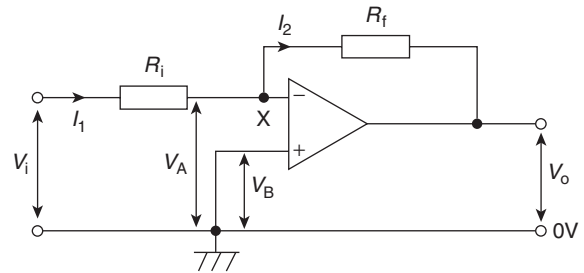
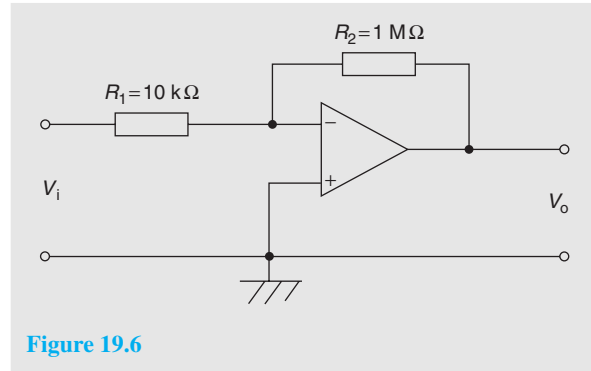

Figure 19.5
Figure 19.6
Operational amplifiers nearly always use **negative feedback**, obtained by feeding back some, or all, of the output to the inverting ($-$) input (as shown in Fig. 19.5 in the next section). The feedback produces an output voltage that opposes the one from which it is taken. This reduces the new output of the amplifier and the resulting closed-loop gain A is then less than the open-loop gain A_o . However, as a result, a wider range of voltages can be applied to the input for amplification. As long as $A_o \gg A$, negative feedback gives:
The basic circuit for an inverting amplifier is shown in Fig. 19.5 where the input voltage V_i (a.c. or d.c.) to be amplified is applied via resistor R_i to the inverting ($-$) terminal; the output voltage V_o is therefore in anti-phase with the input. The non-inverting ($+$) terminal is held at 0V. Negative feedback is provided by the feedback resistor, R_f , feeding back a certain fraction of the output voltage to the inverting terminal.
- (ii) the inputs are both at the same potential if the op amp is not saturated, i.e. $V_A = V_B$ in Fig. 19.5
In Fig. 19.5, $V_B = 0$, hence $V_A = 0$ and point X is called a **virtual earth**. Thus,
Problem 4. In the inverting amplifier of Fig. 19.5, $R_i = 1 \text{ k}\Omega$ and $R_f = 2 \text{ k}\Omega$. Determine the output voltage when the input voltage is: (a) +0.4 V (b) –1.2 V.
Problem 5. The op amp shown in Fig. 19.6 has an input bias current of 100 nA at 20 °C. Calculate (a) the voltage gain, and (b) the output offset voltage due to the input bias current. (c) How can the effect of input bias current be minimised?
Comparing Fig. 19.6 with Fig. 19.5, gives $R_i = 10 \text{ k}\Omega$ and $R_f = 1 \text{ M}\Omega$
(c) The effect of input bias current can be minimised by ensuring that both inputs ‘see’ the same driving resistance. This means that **a resistance of value of 9.9 kΩ (from part (b)) should be placed between the non-inverting (+) terminal and earth in Fig. 19.6**
With reference to Fig. 19.5, and from equation (5),
4. In the inverting amplifier of Fig. 19.5 (on page 292), $R_i = 1.5 \text{ k}\Omega$ and $R_f = 2.5 \text{ k}\Omega$. Determine the output voltage when the input voltage is: (a) +0.6 V (b) -0.9 V [(a) -1.0 V (b) +1.5 V]